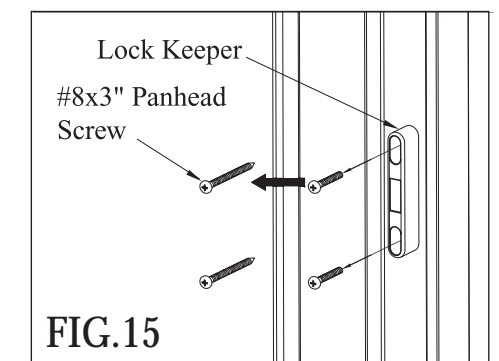

FIG.15
12. Replace keeper screws by # 8x3 "panhead screws. (See Fig.15)